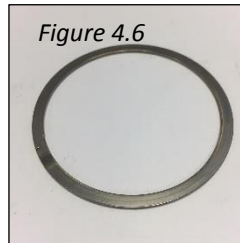

Figure 4.6
3.4 **Spirolox®** - retaining ring can be reused. If deformed or damaged, replace. (Figure 4.6)